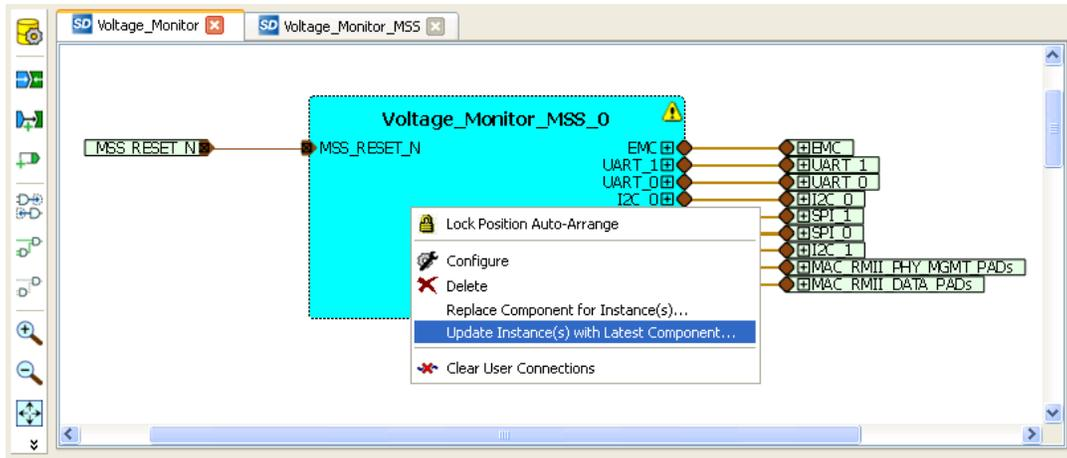

Figure 50 · Updating the MSS
1. Right-click on Voltage_Monitor_MSS_0 component on the **Voltage_Monitor** tab and select Update Instance(s) with Latest Component as shown in Figure 50 .